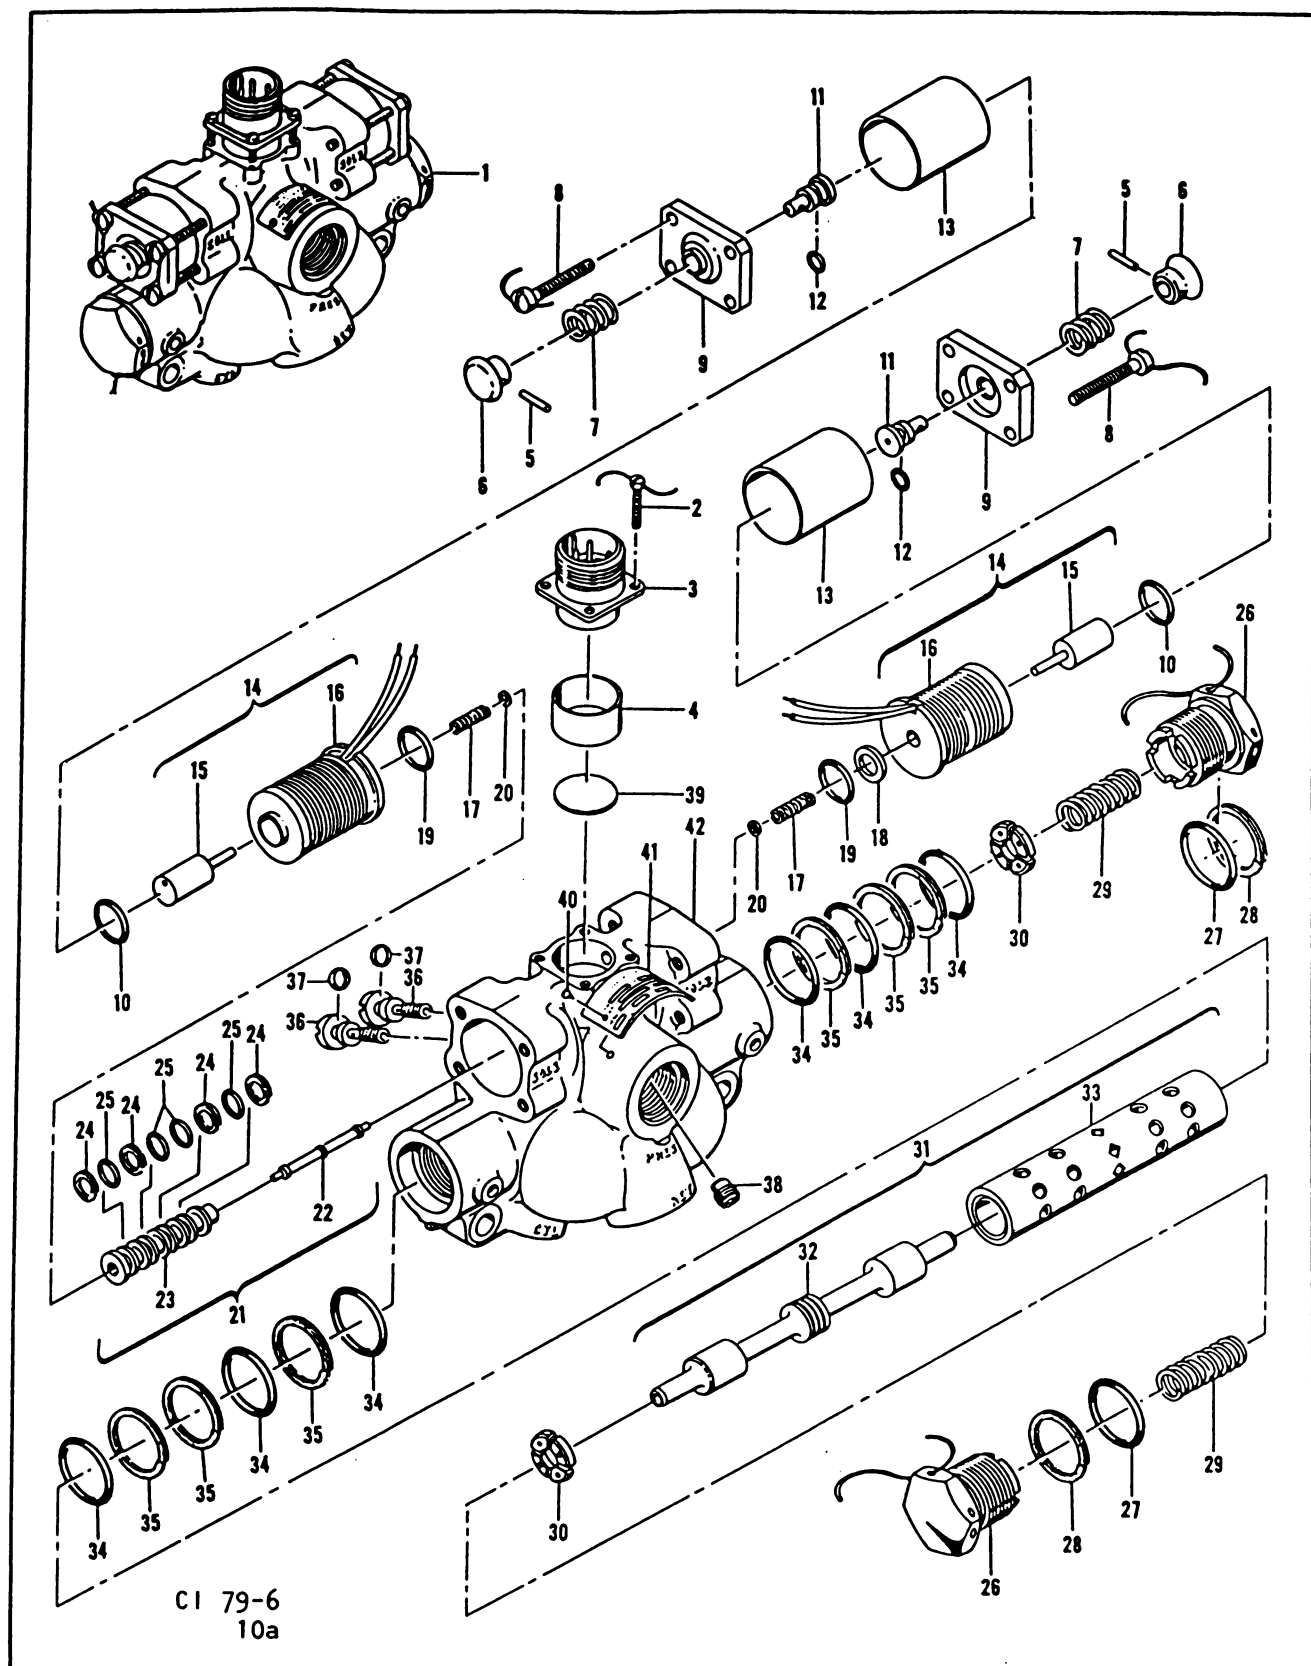

Figure 2-11. Selector valve breakdown.
Let's start with the disassembly of the selector valve pictured in figure 2-11. Before disassembly begins, choose a clean working area. As parts are removed, place them in clean containers for protection against dust and dirt. Also note the manner in which the valve is safety-wired, so that it may be duplicated upon reassembly. Now, disassemble the selector valve according to numerical sequence of index numbers assigned to the exploded view, observing the following: Use a wooden dowel to press or tap shuttle and sleeve assemblies (21, 31) out of the body. These are matched assemblies, precision lapped at manufacture, so handle these items with extreme care. Also, do not intermix these components with like components or other assemblies. After disassembly, wash all nonelectrical metallic parts in cleaning solvent. Dry thoroughly with filtered, moisture-free compressed air. Wipe coil
assemblies with clean, lint-free cloth moistened in cleaning solvent. Use stiff, nonmetallic bristle brush to loosen dirt, sludge, and other foreign matter from interior of body. Make certain that all ports and orifices are thoroughly cleaned. Then, under a strong light and preferably under magnification, inspect all parts for evidence of wear, corrosion, pitting, cracks, breaks, distortion, and stripped or crossed threads. Check the shuttle and sleeves for evidence of scoring or other damage to lapped mating surfaces. Check to see that the shuttle slides smoothly, with no evidence of binding or chattering within the sleeve. Do this by dipping the shuttle in hydraulic fluid; then carefully fit the shuttle into its respective sleeve. Inspect all packing grooves for mutilation, dirt, or any defect which might cause damage to or interfere with sealing. You should check the coils (16) for continuity and resistance, by using an ohmmeter. As an example, the resistance for the coils (16), shown in figure 2-11, should be approximately 48 to 53 ohms. Be sure to find the applicable resistance for any solenoid that you may be checking. Minor nicks, scratches, and imperfections may be removed by polishing with appropriate abrasive cloth. Do not attempt to polish the shuttle or sleeve assemblies. Remember, these items are machine parts and should be replaced if found damaged. If the coil is found defective it too should be replaced, as well as all O-rings and backups. Reassemble the valve in reverse order of index numbers assigned to exploded view. Moisten internal parts with hydraulic fluid prior to reassembly. (NOTE: On many selector valves an "X" is marked on matched parts to show the proper position of installation. Whenever assembling parts, especially matched parts, be sure and check for the "X" marks to insure that the parts are installed properly.)